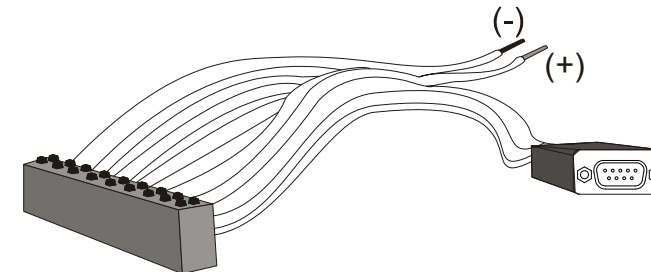

Figure 2: Example of a User-Supplied Wiring Harness
- A wiring harness (see *Figure 2*) to provide power to the receiver and access to the data and strobe signals, with one or more DB-9 connectors for serial communication with a PC or other data communications equipment